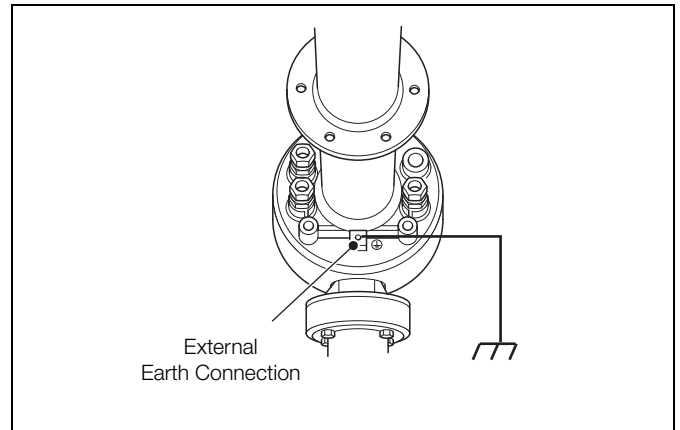

Fig. 4.1 External Earth Connection
- The probe **must** be bonded to local earth via the external earth connection – see Fig. 4.1.